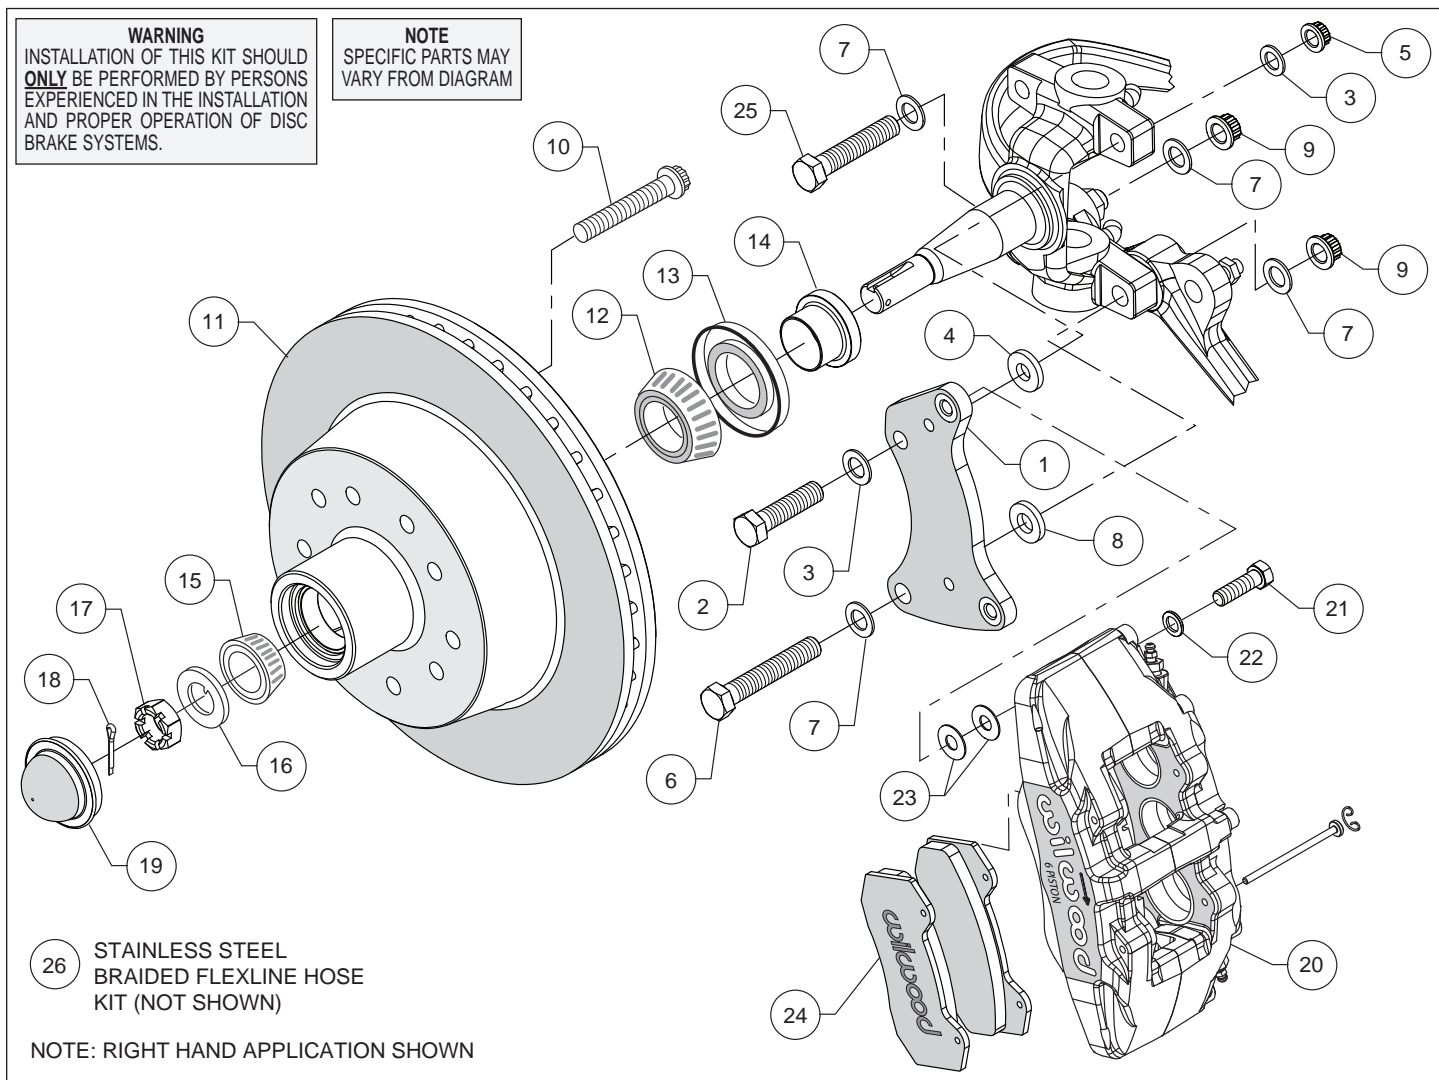
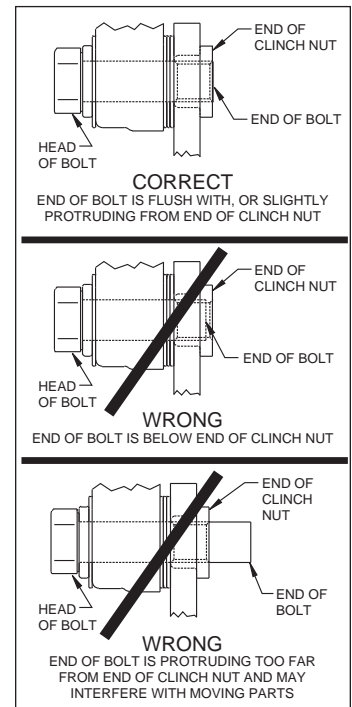

Figure 1. Typical Installation Configuration
Figure 3. Clinch Nut Engagement Diagram
**Assembly Instructions** (numbers in parenthesis refer to the parts list, on the preceding page and Figure 1): **CAUTION:** All mounting bolts must fully engage clinch nuts. Be sure to check that all bolts are either flush or protruding through flanged side of clinch nut after shimming, Figure 3.
- Orient the caliper mount bracket (1) as shown in Figure 1 and Photo 1, and install using bolt (2), washers (3), spacer (4) and lock nut (5) on the top hole. Install bolt (6), washers (7), spacer (8) and lock nut (9) on the bottom hole. Temporarily tighten the mounting bolts. **NOTE:** The bracket must fit squarely against the mount bosses on the upright. Inspect for interference from casting irregularities, machining ridges, burrs, etc. Torque lock nut (5) to 47 ft-lb. and lock nut (9) to 65 ft-lb.
- Replace OEM steering arm bolt with bolt (25), washers (7) and lock nut (9) as shown in Figure 1 and Photo 1. Torque lock nut to 65 ft-lb.
- Install wheel studs (10) into the hub/rotor (11), Photo 2. Apply red *Loctite*® 271 to the threads and torque to 77 ft-lb. **NOTE:** There are two five lug patterns in the hub (5 x 4.75 and 5 x 5.00). Ensure the correct hub stud pattern is being used to fit the wheel application.
- NOTE:** This kit contains distinct right and left hand calipers that must be mounted in a specific direction, as described below. Mount the caliper (20) onto the caliper mounting bracket (1) using bolts (21) and washers (22), as shown in Figure 1.
Initially place two .035" thick shims (23) on each bolt between the caliper and the bracket, Photo 7. Ensure that the caliper is mounted so the largest pistons are at the rotor exit end of the caliper, in relation to the direction of rotor rotation. Temporarily tighten the mounting bolts and view the rotor (11) through the top opening of the caliper. The rotor should be centered in the caliper, Photo 8. If not, adjust by adding or subtracting shims (23) between the bracket and the caliper. Always use the same amount of shims on each of the two mounting bolts. If necessary place spare shims between washer (22) and caliper mounting ear to achieve the proper clinch nut engagement. Figure 3. Once the caliper alignment and clinch nut engagement are correct, remove the caliper.
- Remove the two pad retaining pins from the caliper (20) by carefully popping out the pin retaining clips and sliding out the pins. Insert the brake pads (24) into the caliper from the bottom, Figure 1 and Photo 9, with the friction material facing the rotor. Secure the brake pads in place with the pad retaining pins and clips, Photo 10. Reinstall the caliper onto the caliper mounting bracket. Apply red *Loctite*® 271 to bolt threads (21), and torque to 40 ft-lb.
- **NOTE:** OEM rubber brake hoses generally cannot be adapted to Wilwood calipers. The caliper inlet fitting is a 1/8-27 NPT. Install Wilwood's stainless steel braided flexline hose kit (25), P/N 220-7056 included with this kit, Photo 11. **Carefully route hoses to prevent contact with moving suspension, brake or wheel components.** **NOTE:** Wilwood hose kits are designed for use in many different vehicle applications and it is the installer's responsibility to properly route and ensure adequate clearance and retention for brake hose components.